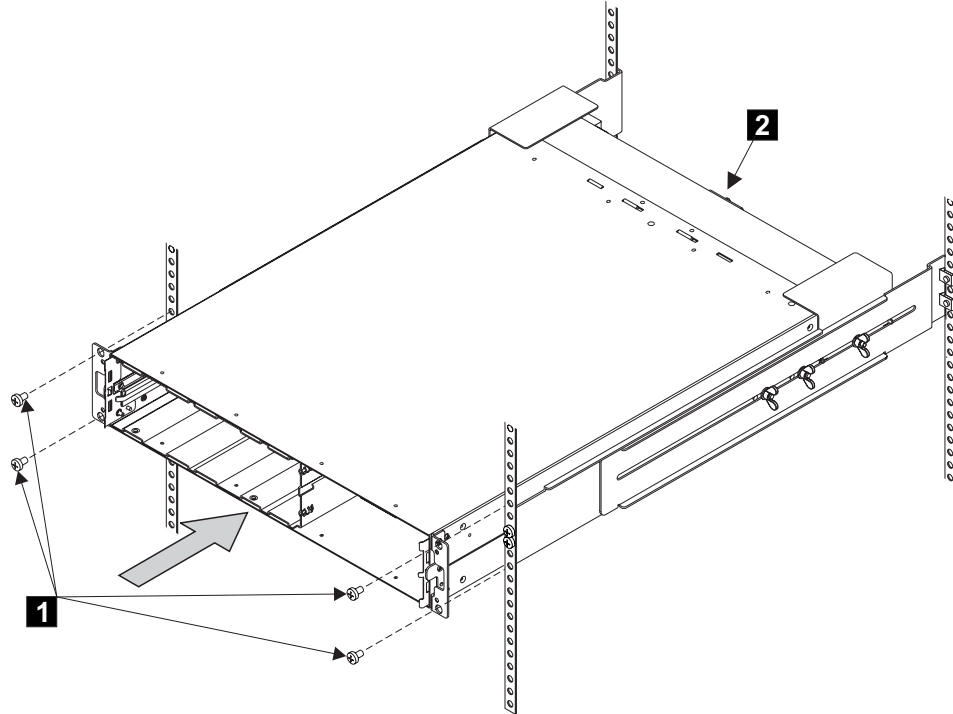

Figure 234. Replacing the 2145 UPS into a rack
5. Install the front flathead screws **1** (see Figure 234 on page 507).